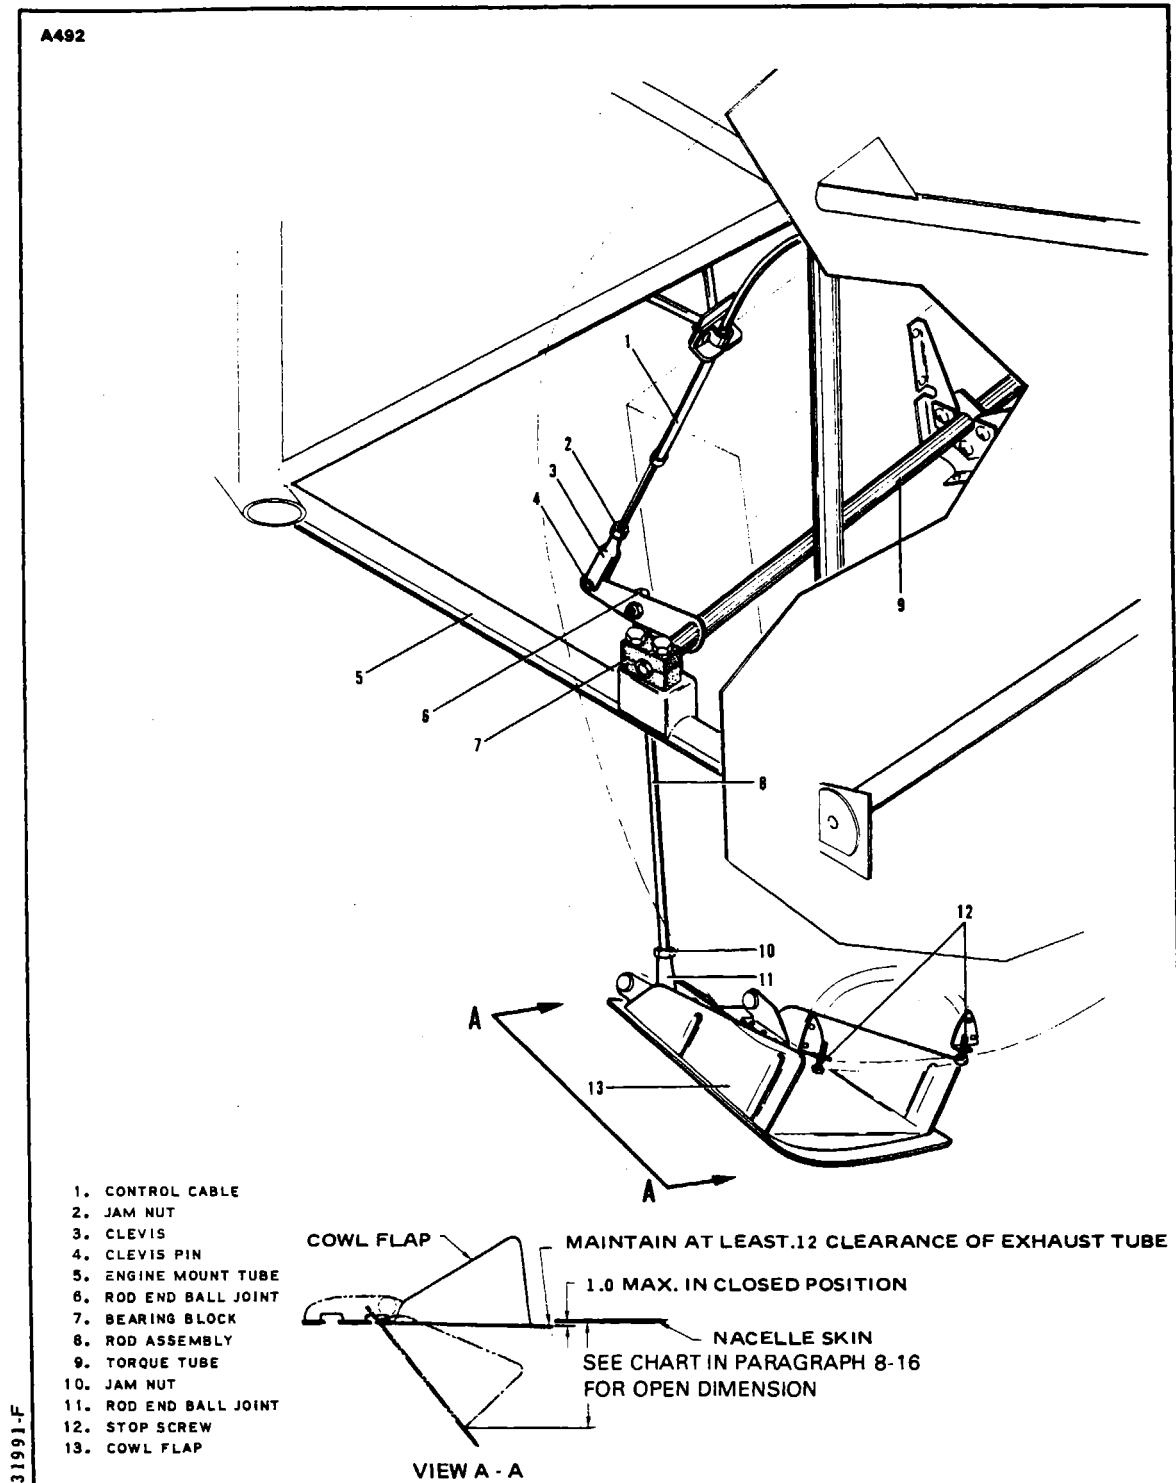

Figure 8-1. Cowl Flap Installation
8-12. REMOVAL OF COWL FLAP ASSEMBLY. (Refer to Figure 8-1.)
8-15. INSTALLATION OF COWL FLAP ASSEMBLY. (Refer to Figure 8-1.)
8-16. RIGGING AND ADJUSTING ENGINE COWL FLAPS. (Refer to Figure 8-1.)
- c. With the cowl flap selector in the cabin placed in the OPEN position, adjust the rod ends (6 and 11) of the rod assembly (8) so the cowl flap is open to the dimension shown in Figure 8-1 for the particular serial numbers noted in the following chart.
d. This dimension should be measured normal to the nacelle skin. (Refer to Figure 8-1.) Divide the adjustment between both rod ends, and check all rod ends and clevis ends for adequate thread engagement.
g. Adjust the two stop screws(12) at the trailing edge of the cowl flaps until they contact the cowl flaps firmly.